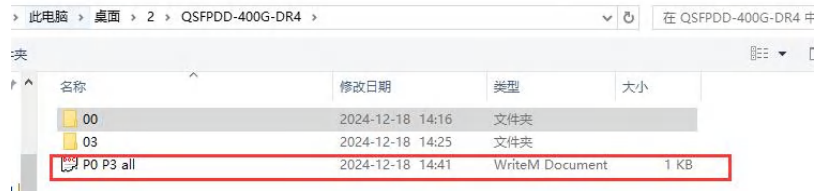

Figure 69
3.2.2 Click “ Export BinFile” to import the Page00 and Page03 bin (Figure 69)